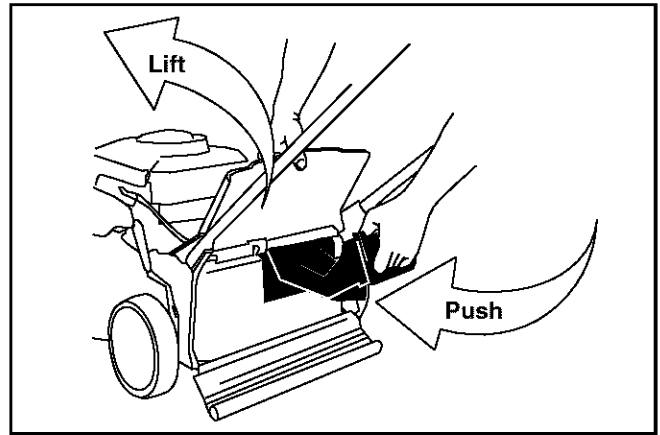

Figure 11
- Lift the rear discharge door and remove the grass bag, if installed. Insert the mulching plug. See Figure 11.